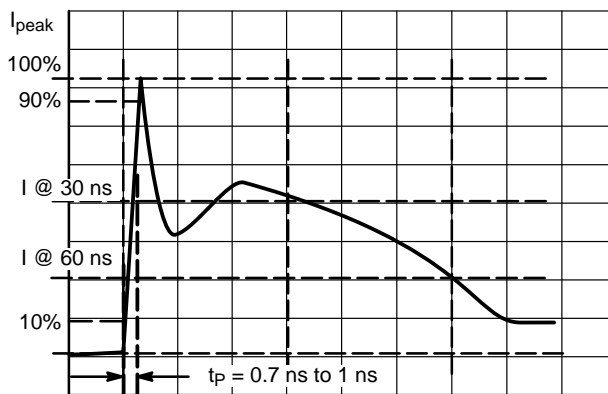

Figure 4. IEC 61000–4–2 Current Waveform
**ESD Rating:** This is the survivability rating of an ESD protection diode. The most common waveform that is specified is the IEC61000–4–2 system level ESD test which is distinguished by its fast rise time and high current levels (see Figure 4). The survivability rating is typically specified by a level or input voltage level per the table below. Most system designers are required to test up to level 4 which is  $\pm 8$  kV contact or 15 kV air discharge. This rating on an ESD diode datasheet is incomplete, however, since it only tells the designer what the protection diode can survive, but does not give any information as to what voltage level the ESD diode will clamp the ESD pulse to.